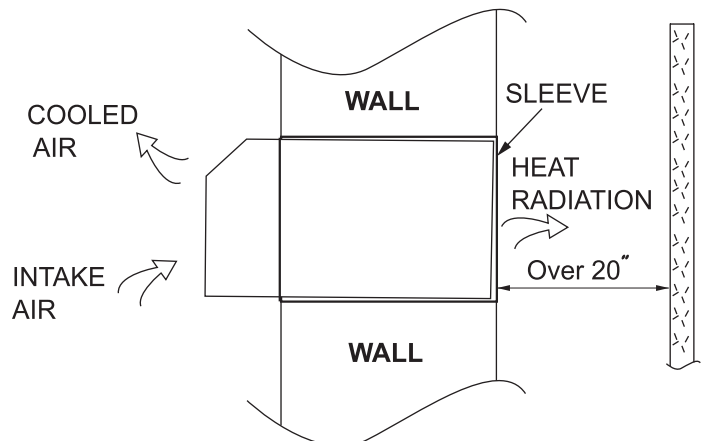

Figure 6
- When installing the sleeve, make certain there is nothing within 20 of the back that would interfere with heat radiation and exhaust air flow. (See Figure 6)